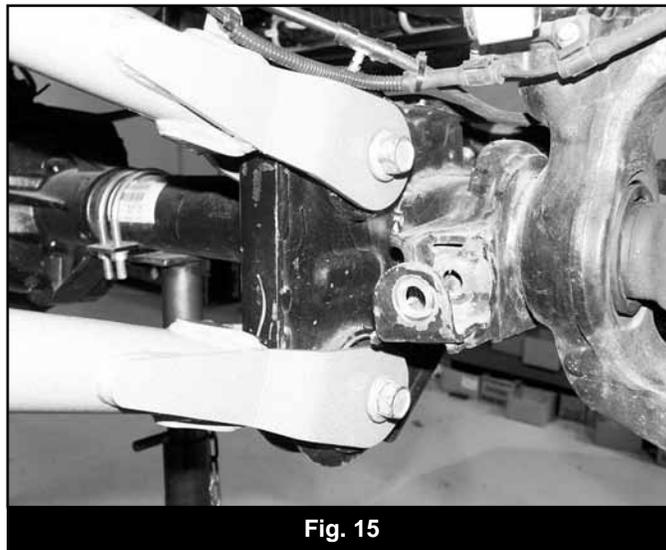

Fig. 15
35. Attach the axle end of the control arm with the original hardware. Leave hardware loose. (Fig. 15)